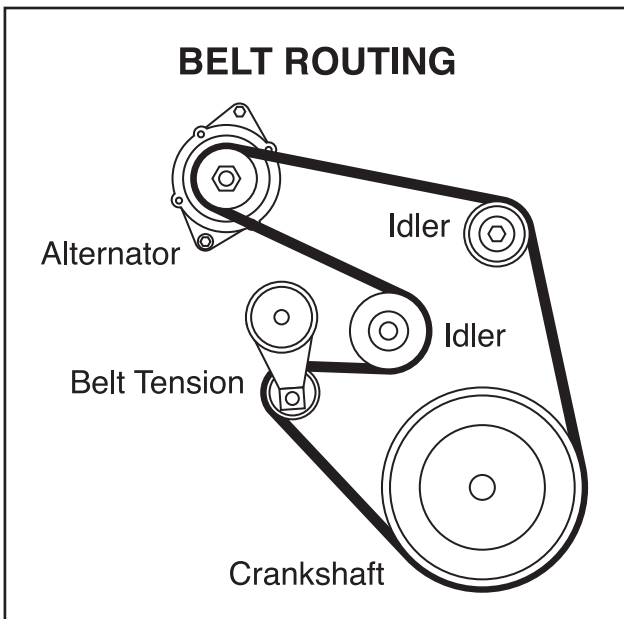

Figure 27. Engine Belt Routing
1) Install a 1000 psi gage, with a shutoff valve in the port marked “G” on the left gate manifold (Fig 27) located between the conveyors. This port is SAE 04 and requires a 9/16" wrench to remove the plug.